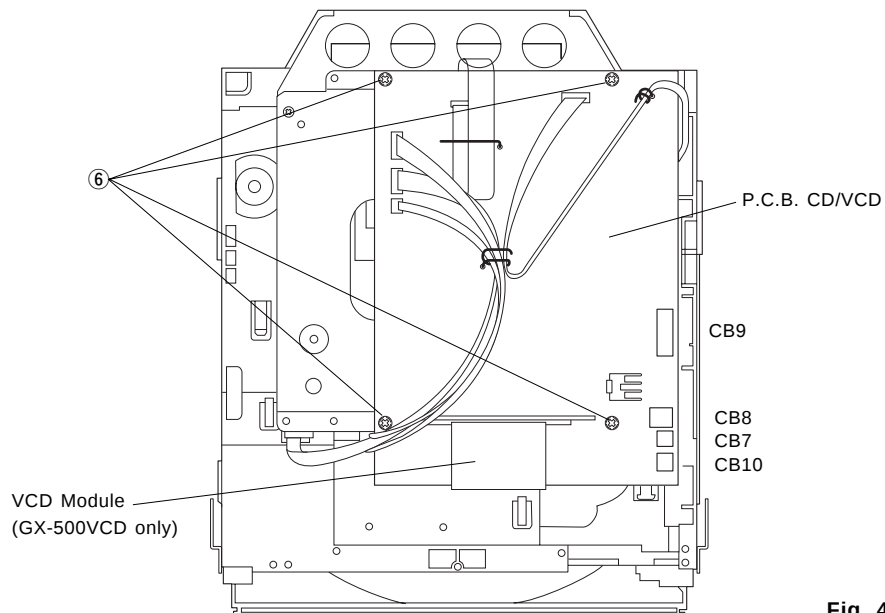
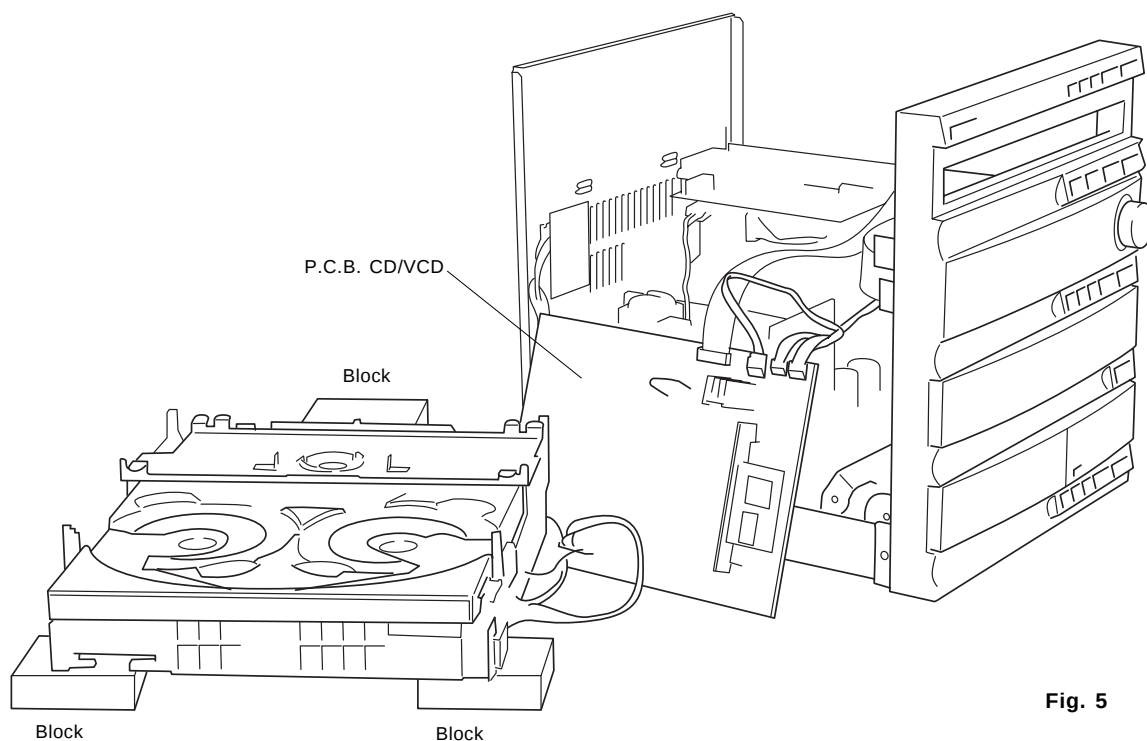

Fig. 4
Fig. 5
- Remove 4 screws (⑥) and then remove the P.C.B. CD/VCD in Fig. 4.
- Place blocks (at 3 locations) to hold the CD Mechanical Unit horizontally as shown in the Fig. 5.
- Connect the Flat Connecting Cable (CB9) and 3 connectors (CB8, CB7 and CB10) in Fig. 4 and Fig. 5.